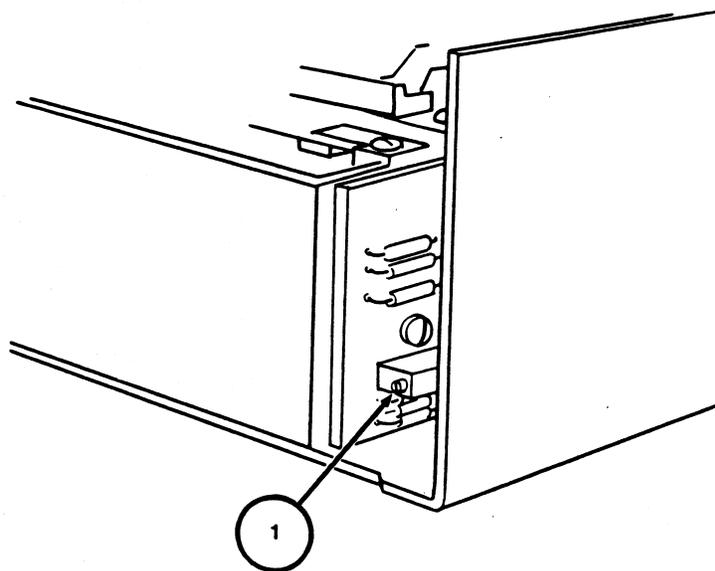

FIGURE 1
3. Look at the back of the drive mechanism. Locate the motor control card, mounted on the rear, and locate the potentiometer which has a screwdriver adjustment on the side (Figure 1, #1). (Do not confuse this with the potentiometer(s) on the analog card!)